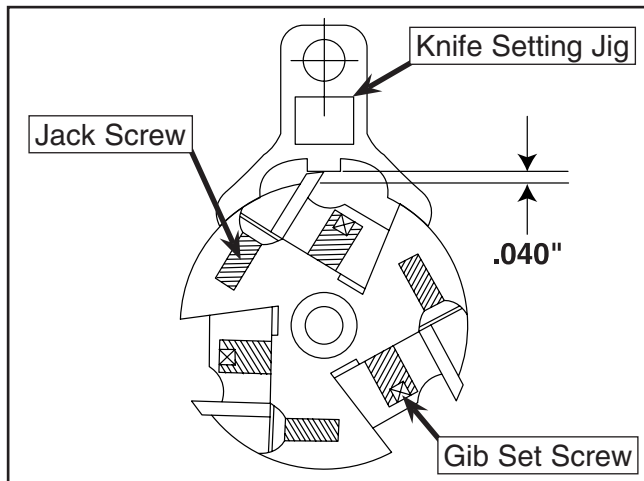

Figure 32. Knife setting jig placement.
5. Place the knife setting jig over the knife on the cutterhead as shown in **Figure 32**.